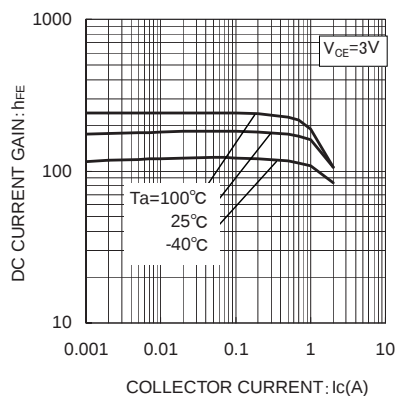

Fig.4 DC Current Gain vs. Collector Current (II)
Collector Current (I)Fig.4 DC Current Gain vs.